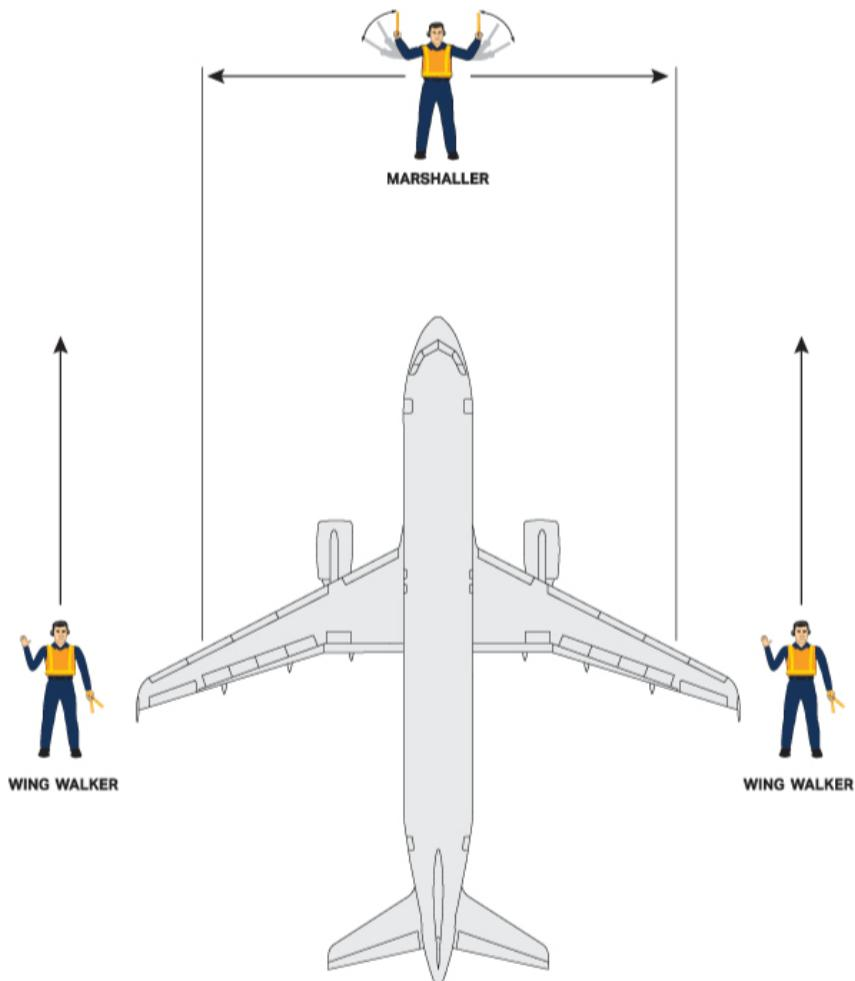

Figure 4.1.2 - Wing Walker Positioning for Aircraft Arrival
4. Wing walkers, if required, will be positioned approximately 1 m (3 ft) outside the path of the wingtips. Wingwalkers shall maintain visual contact with the agent responsible for the aircraft arrival operations until the aircraft has come to a complete stop. See diagram in Figure 4.1.2 for positioning of wing walker during aircraft arrival on stand.